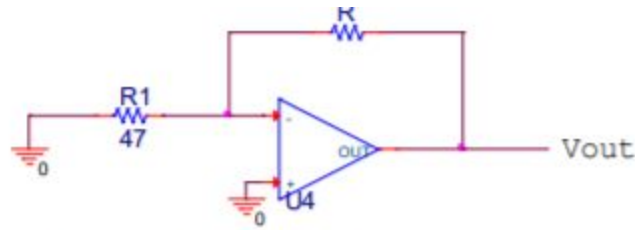

Figure 3.3 Circuit with added Resistor R1 for part C and D
- c. The Analog Discovery will cause most of the output. DC bias output from the op amp will matter. As resistances get larger the bias current will affect the circuit, shown below in figure 3.3, output.